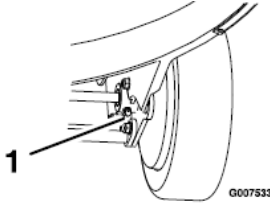

Figure 23
2. Locate the grease fitting on the underside of the mower deck. Wipe the grease fittings with a clean rag (Figure 23).